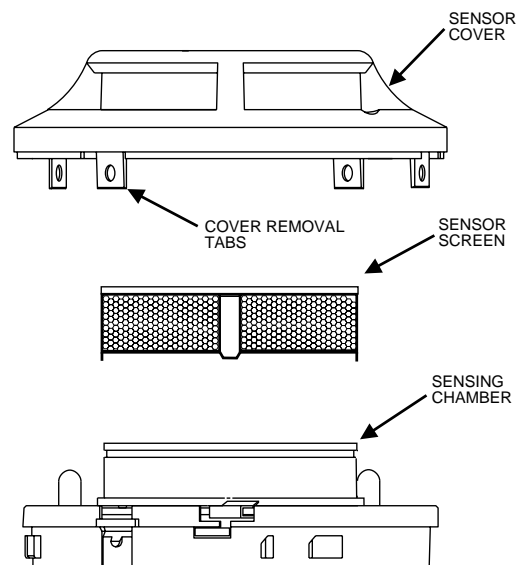

Figure 4. Cleaning
2. Remove the sensor cover, see Figure 4. Use a small standard screwdriver to release each of the four cover removal tabs that hold the cover in place.